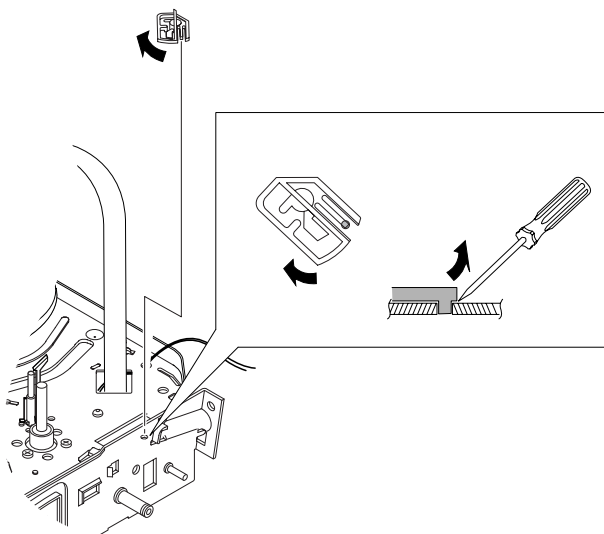

Fig. 4-39 Damper Capstan Removal
- 1) Lift the Hook in the direction of arrow use the Flat Tip. (Refer to Fig. 4-39)